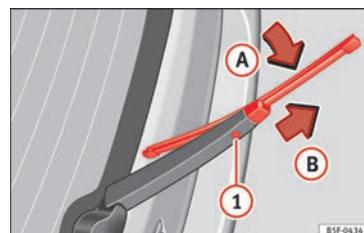

Fig. 78 Changing the rear wiper blade
- Pull the wiper blade out of its mounting on the wiper arm » » Fig. 78 (arrow A).
- Hold down the release button » » Fig. 78 ❶ while gently pulling the blade in the direction of arrow B. This may require some strength.
- Insert a new blade of the **same length and type** in the wiper arm in the opposite direction to the arrow » » Fig. 78 B and hook into place. This feature is operational when the knob is in position (arrow A).